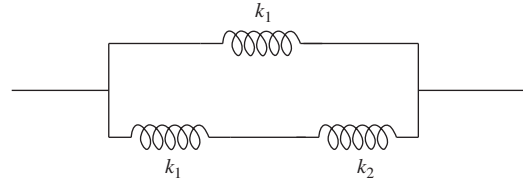

Figure P2.19 Series-parallel combination of three springs.
- 2-19.** An assembly of springs shown in Fig. P2.19 has equivalent stiffness $k_{eq} = k_1 + \frac{k_1 k_2}{k_1 + k_2}$.